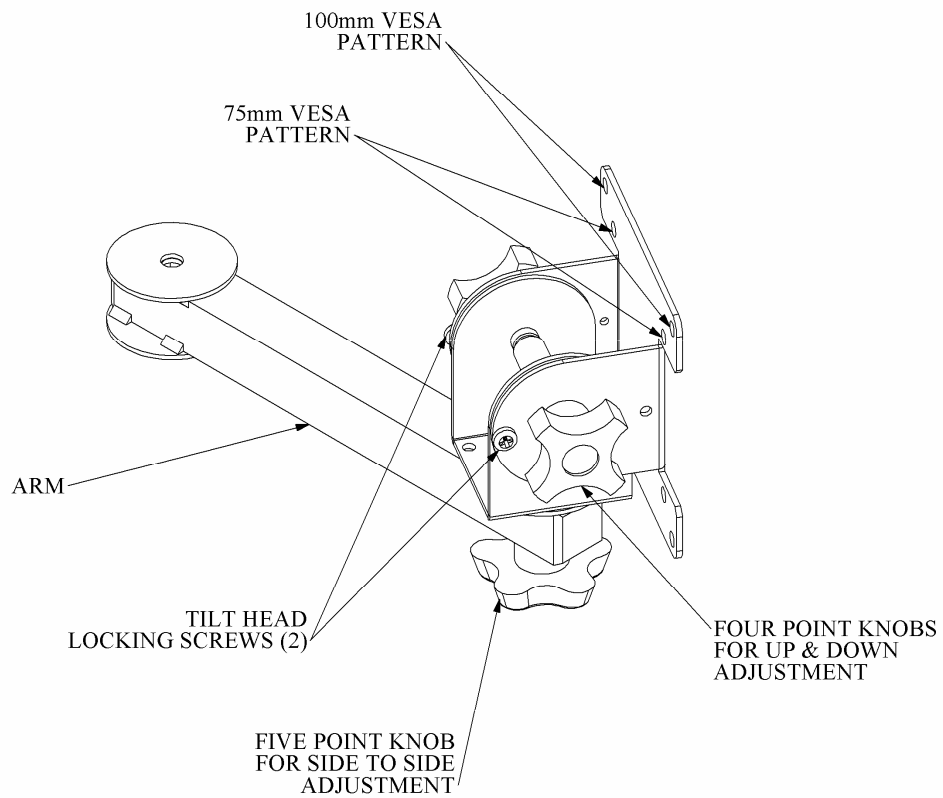

Figure 3 - An 8" arm and a VESA pan and tilt head
2. Slightly loosen the large five point knob below the end of the arm just enough so that the pan and tilt head or *UPMT* will turn (See Figure 3).
2. Slightly loosen both of the four point knobs on both sides of the pan and tilt head just enough so that the monitor can be moved up and down slightly (See Figure 3).
3. Using a standard Philips screwdriver, gently tighten the two locking screws on the sides of the pan and tilt head, and the single locking screw on the end of the arm under the bottom of the pan and tilt head (See Figure 3).